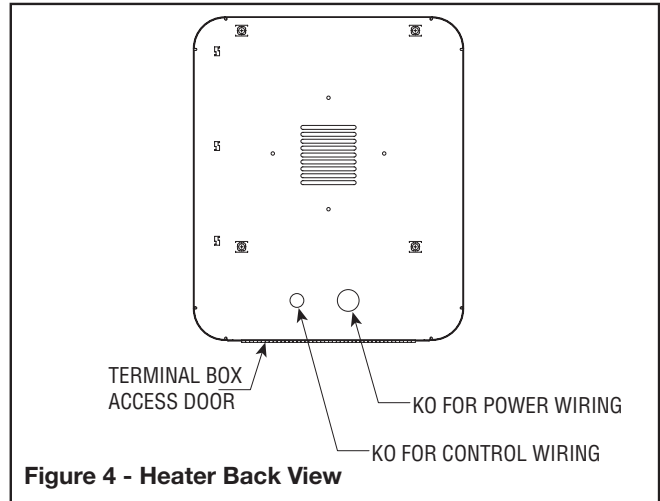

Figure 4 - Heater Back View
- Two knockouts are provided on the back of the heater for wire entry. See Fig. 4 for location of knockouts.
3. Two knockouts are provided on the back of the heater for wire entry. See Fig. 4 for location of knockouts.